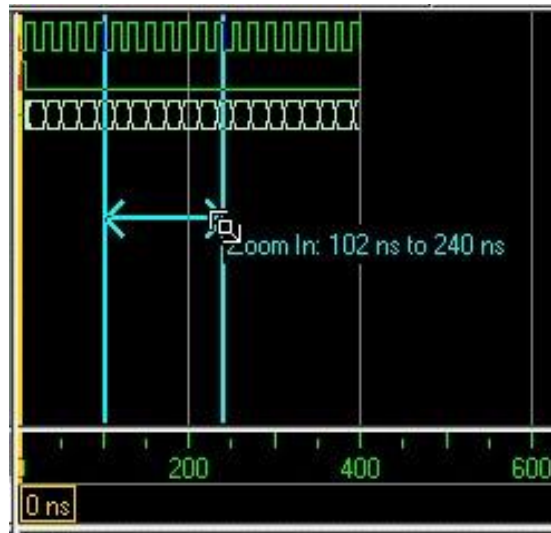

Figure 25
- b. You should see blue vertical lines and numbers defining an area to zoom in (Figure 25).